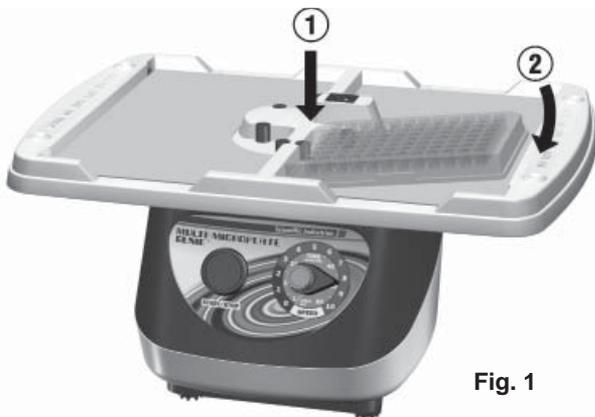

Fig. 1
2.0 - Place a microplate into the Multi-MicroPlate Genie as shown in Fig. 1. Tip the microplate slightly down toward the inside, and bank the corner into the two rubber bumpers. It is not necessary to tilt the plate excessively. Push the plate the rest of the way down onto the top of the Multi-MicroPlate Genie and release. The other side of the microplate will be held in place by the beveled edge on the opposing side of the Multi-MicroPlate Genie. Up to four microplates can be installed, 8 with optional accessory tray.